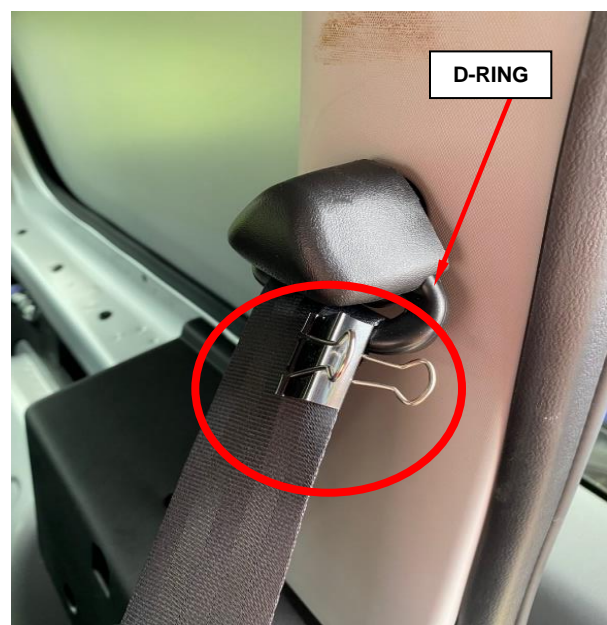

Figure 2 – Binder Clip Attached
2. Place a binder clip at the D-Ring if checking the outboard seating positions or at the seat mounted Web Guide for the center seating position (Figure 2).